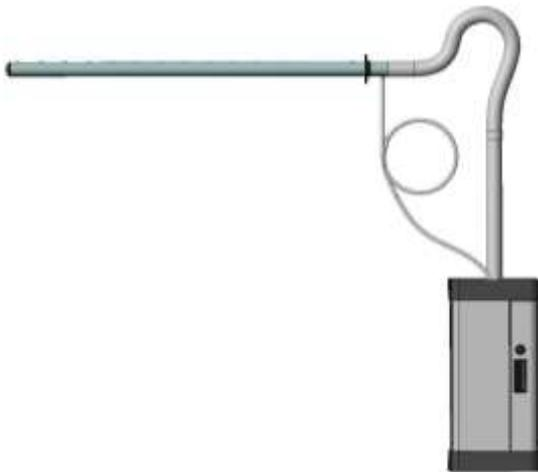
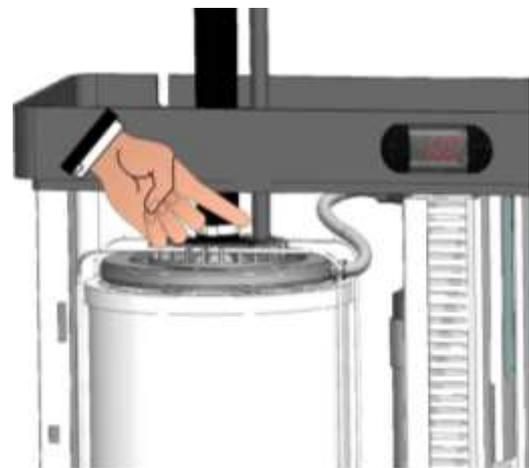

Fig.44
Fig. 45
2. If the steam distributor is positioned at a point higher than the humidifier and the steam tube generates a siphon (e.g. Fig. 44), the condensate recovery tube must be installed, directly discharging in the appropriate cylinder sleeve of the humidifier (Fig. 45) or in a water collection well. Condensate recovery is performed by connecting the PEGO UMITUBODN10 tube, specific for this type of application, to the 10mm diameter sleeve of the steam distributor. In the path of the condensate recovery tube, from the steam distributor to the humidifier or from the steam distributor to the well, it is necessary to perform a siphon with a complete turn with a minimum diameter of 200mm; the siphon must also be filled with water before installation. This will prevent the steam outlet from the condensate recovery tube (Fig. 44).